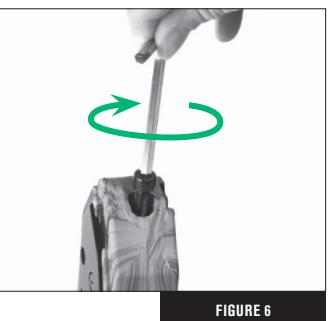

FIGURE 6
6. Insert and tighten the limb screw using the LARGE hex, realigning the lines as needed. **DO NOT OVERTIGHTEN** (Fig. 6).